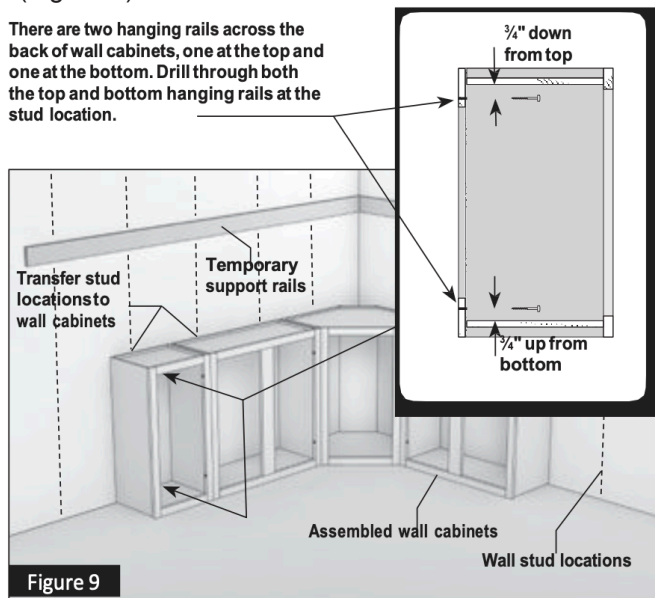

Figure 9
2.8 Once all cabinets are pre-assembled on the floor, measure from the corner to the first stud mark and transfer the measurement to the inside of the cabinet to be installed. Repeat this step for each and every stud. Now drill 7/32" holes for mounting through the top and bottom hanging rails inside of the cabinet 3/4" down from the top and 3/4" up from the bottom. (Figure 9)